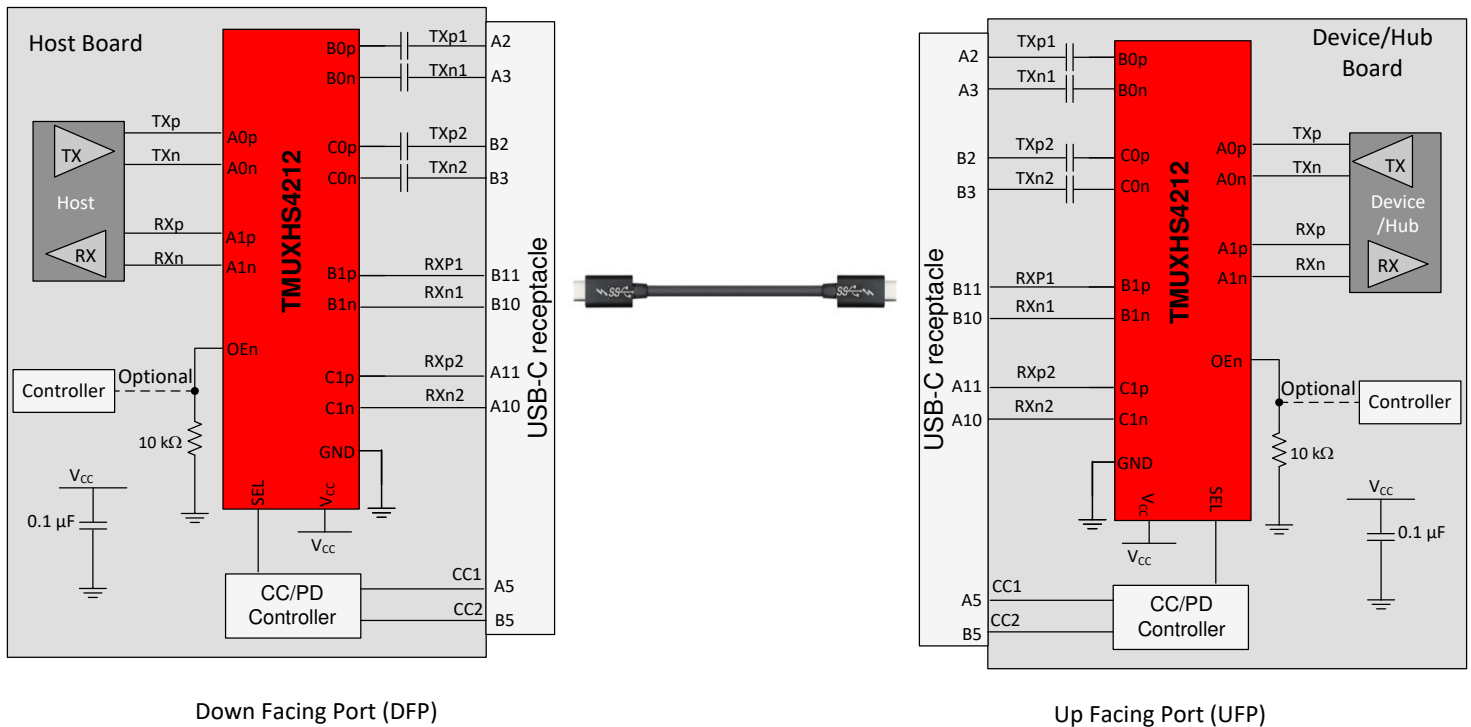

Figure 9-2. USB 3.2 Implementation for USB Type-C Connector
The TMUXHS4212 can be used in USB Type-C implementation to mux USB 3.2 superspeed signals (TX1 and RX1 pairs versus TX2 and RX2 pairs) to accommodate plug flips. In typical use cases, the mux selection is done by a USB Type-C Channel Configuration (CC) or Power Delivery (PD) controller. The device can be used on a USB Type-C DFP, UFP, or DRP port. Figure 9-2 shows two USB Type-C connector applications with both a host and device side. The cable between the two connectors swivels the pairs to properly route the signals to the correct pin. The other applications are more generic because different connectors can be used.
R_{BIAS} (Figure 9-2) when needed	1 k Ω to 100 k Ω